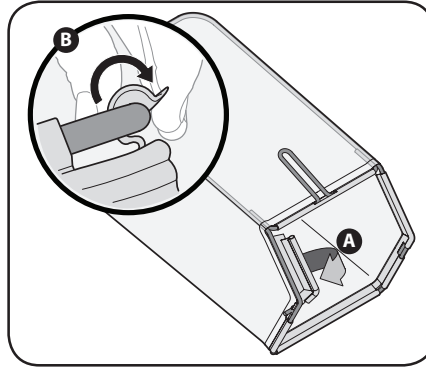

Figure 2-8
- Follow steps below to assemble the grass catcher (if needed). Make certain bag is turned right side out before assembling (warning label will be on the outside). See Figure 2-8.